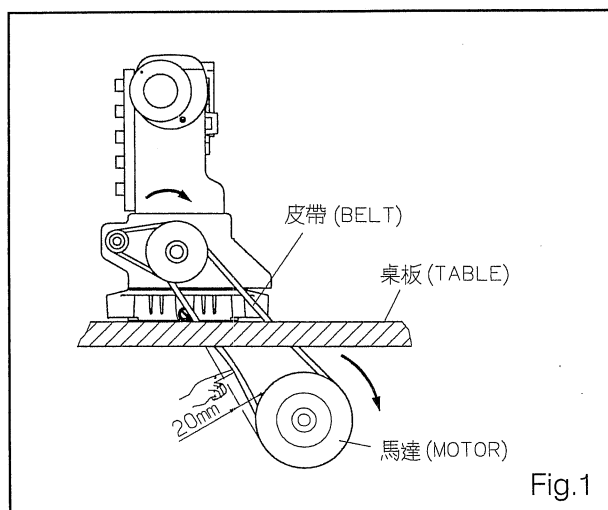

Fig.1
2. Be sure that the motor turning direction is clockwise, and the motor belt tension can be pressed with finger inward about 2cm. For safety reason, please fasten the belt cover. (Fig.1,2) (Suitable for general type)